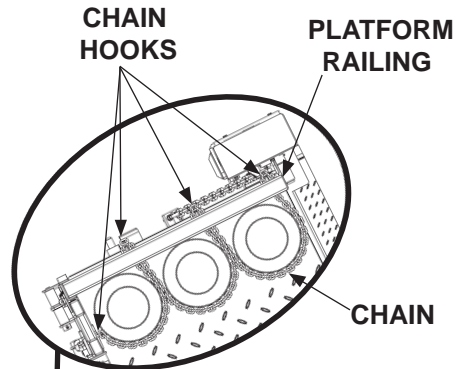

FIG. 15-1A
2. Move loads across the ramp (**FIG. 15-1**) to the platform, but never rest or raise loads on the ramp. Make sure gas bottles rest against platform railing (**FIG. 15-1A**) and angle support (**FIG. 15-1B**).